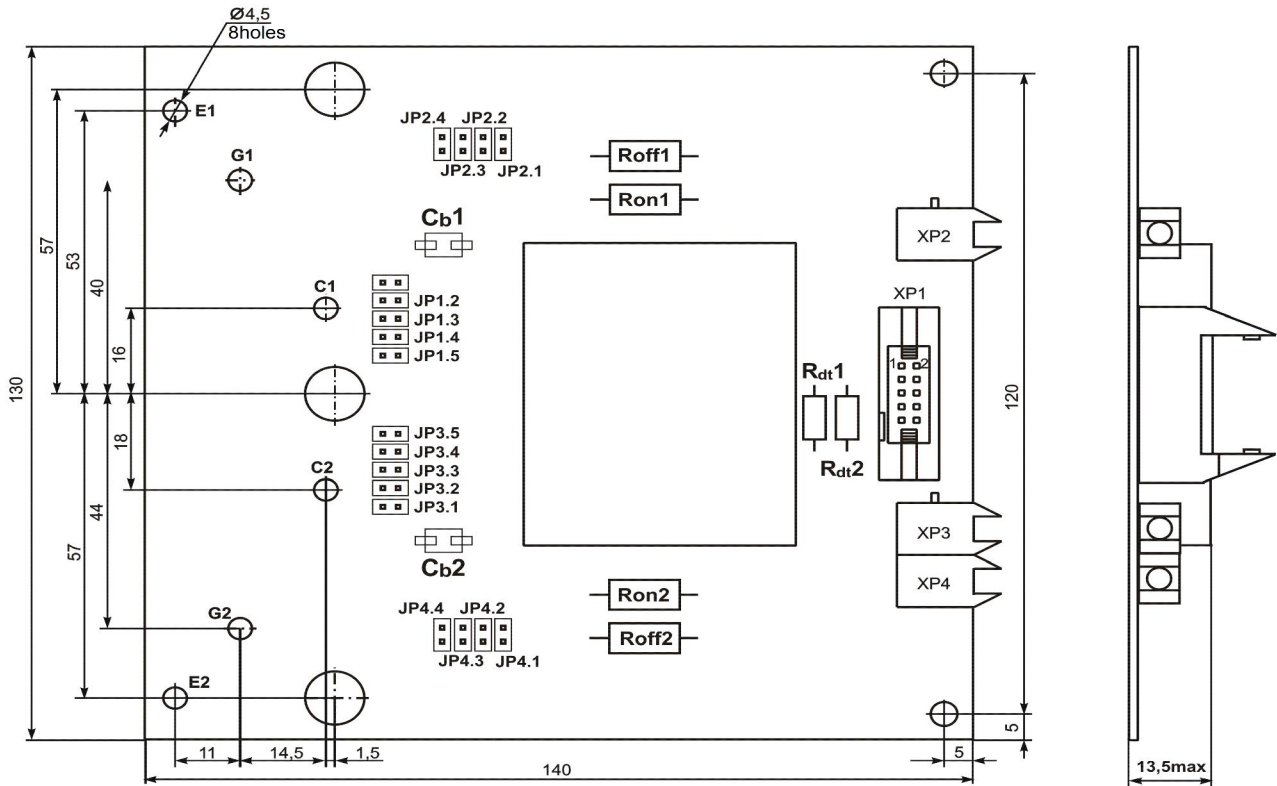
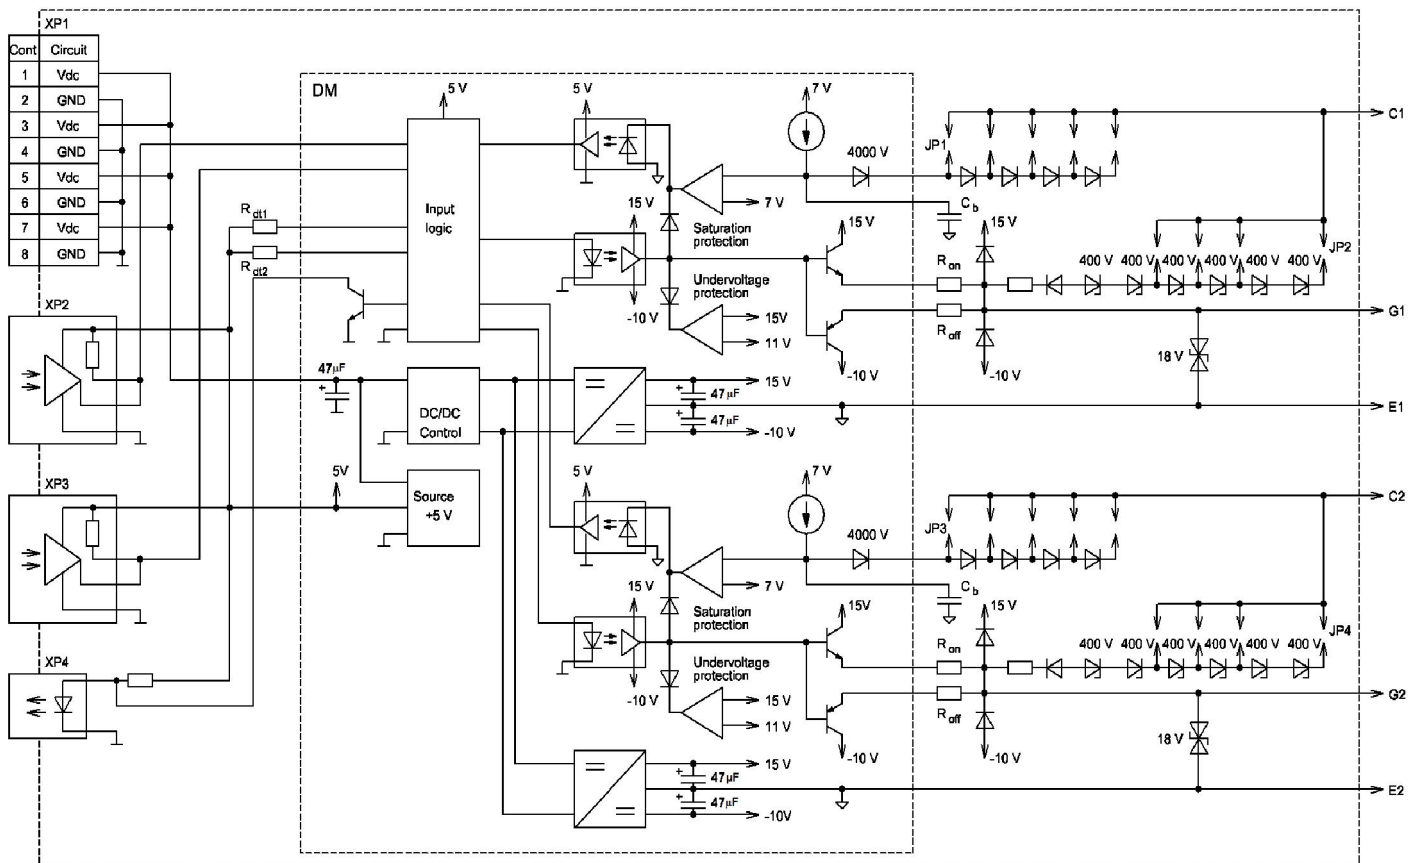

Figure 1 – Overall drawing
Figure 2– Functional driver circuit
3.2 Overall drawing is shown at Figure 1, functional driver scheme is represented at Figure 2.